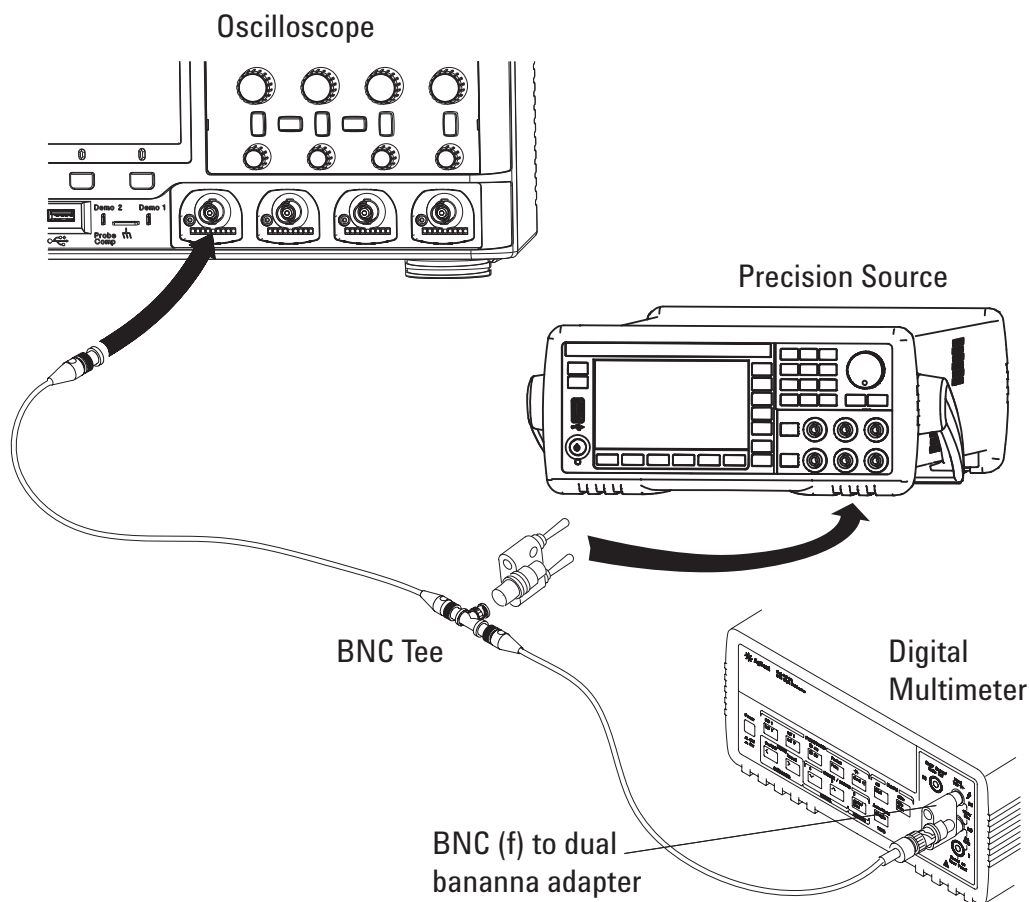

Figure 3 Setting up Equipment for DC Vertical Gain Accuracy Test
- 6 Use the BNC tee and cables to connect the precision source /power supply to both the oscilloscope and the multimeter (see **Figure 3**).